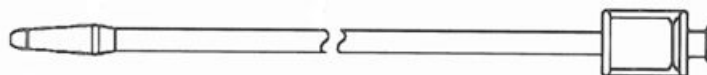

Figure 4: In-Sheath Dilator
- one in-sheath dilator (Fig 4) that can be used to expand the sheath during device use at the physician's discretion.